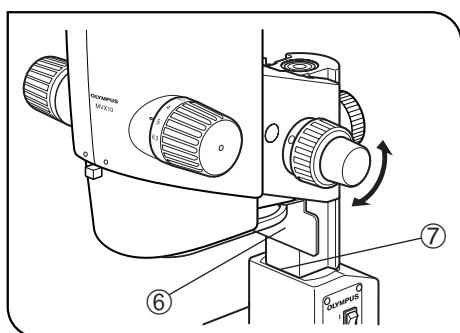

Fig. 21
★ Before installing the focusing assembly on the pillar, adjust the coarse and fine focus adjustment knobs so that the hand guard ⑥ does not protrude from the lower end of the focusing assembly ⑦. (Fig. 21)